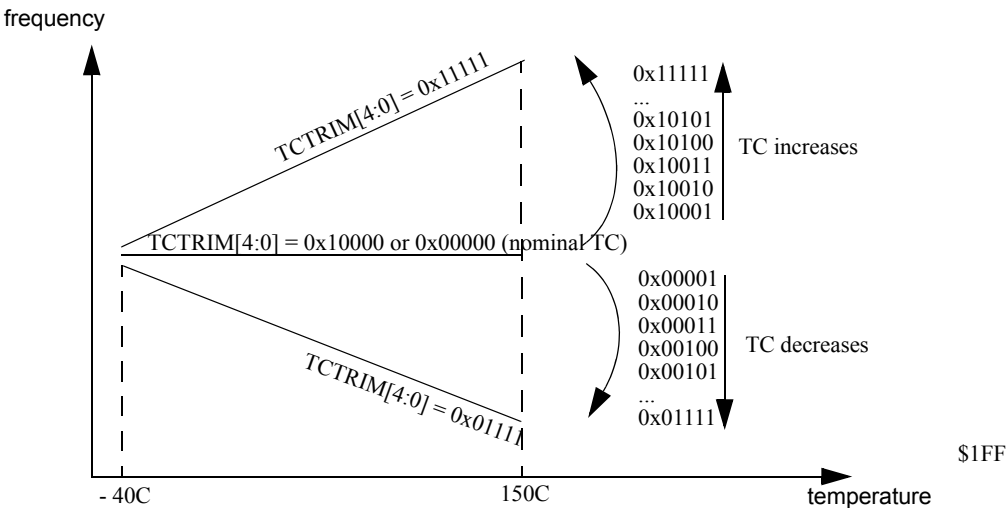

Figure 88. Influence of TCTRIM[4:0] on the Temperature Coefficient
15-11 TCTRIM	IRC1M temperature coefficient Trim Bits Trim bits for the Temperature Coefficient (TC) of the IRC1M frequency. Figure 88 shows the influence of the bits TCTRIM4:0] on the relationship between frequency and temperature. Figure 88 shows an approximate TC variation, relative to the nominal TC of the IRC1M (i.e. for TCTRIM[4:0]=0x00000 or 0x10000).